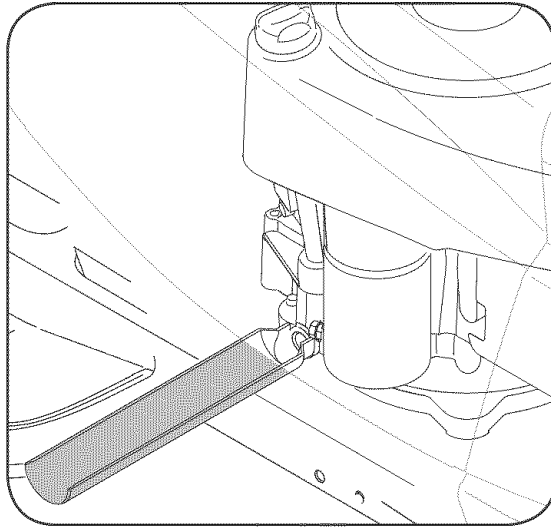

Figure 20
2. Snap the small end of oil drain sleeve onto the oil sump. See Figure 20.